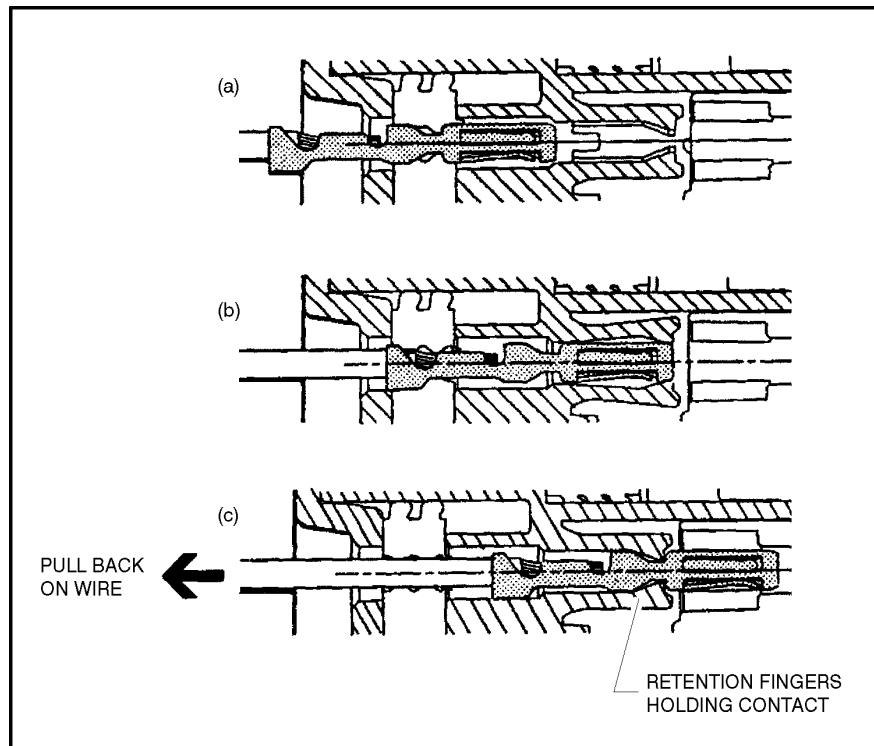

Figure 2-3. Connector Assembly Figure 2
1. To insert a contact, push it straight into the appropriate circuit cavity as far as it will go (See Figure 2-3.).
2. Pull back on the contact wire with a force of 1 or 2 lbs. to be sure the retention fingers are holding the contact (See Figure 2-3.).